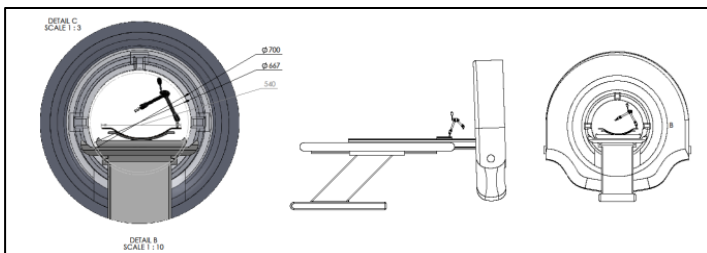

Figure 2: Illustration of intended use
- Locate the holder on the CT bed (Fig. 2)